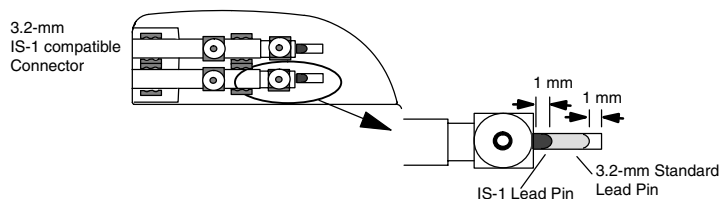

Figure 2-3 The 3.2-mm/IS-1 connector.
- For proper connection of a 3.2-mm (ie, not an IS-1 style lead) to the pacemaker, be certain that the lead connector pin is within 1 mm of the end of the pacemaker lead barrel (Figure 2-3).